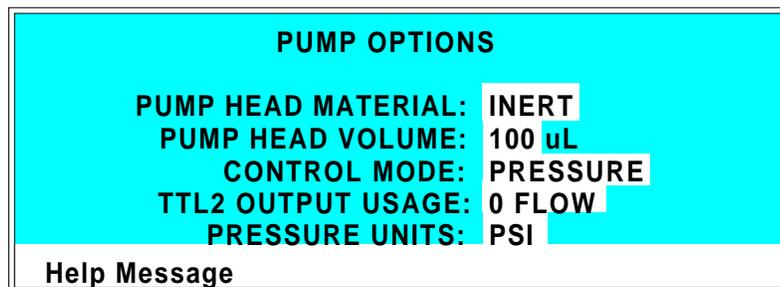

Figure B-5. Pump Options Screen
1. Go to the IP25 **PUMP OPTIONS** screen and set **TTL2 OUTPUT USAGE** to **0 FLOW** (see Figure B-5).